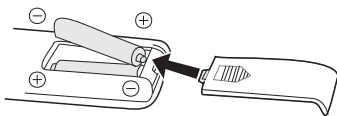

Fig.4
(1) Slide the battery compartment Cover.
(2) Insert the batteries, and make sure that the batteries are placed as shown in the Fig.4.